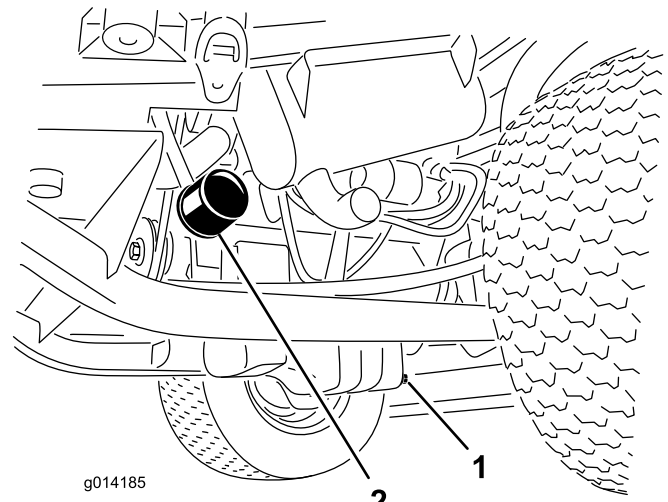

Figure 37
1. Remove the drain plug (Figure 37) and let the oil flow into a drain pan.
3. Remove the oil filter (Figure 37).